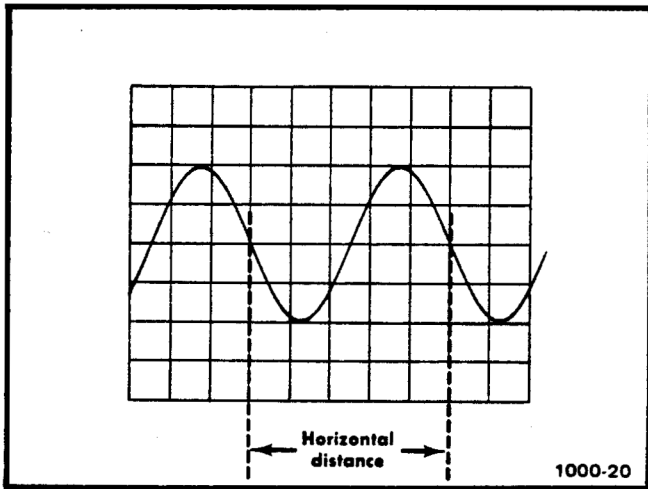

Fig. 2-5. Measuring time duration (period) between points on a waveform.
2. Set the time-base triggering controls to obtain a stable display. Set the SECONDS/DIV switch to the fastest sweep rate that will permit displaying one cycle of the waveform in less than eight divisions (some non-linearity may occur in the first and last graticule divisions of display). Refer to Fig. 2-5.
EXAMPLE: The frequency of the signal shown in Fig. 2-5, which has a period of 0.5 ms is: